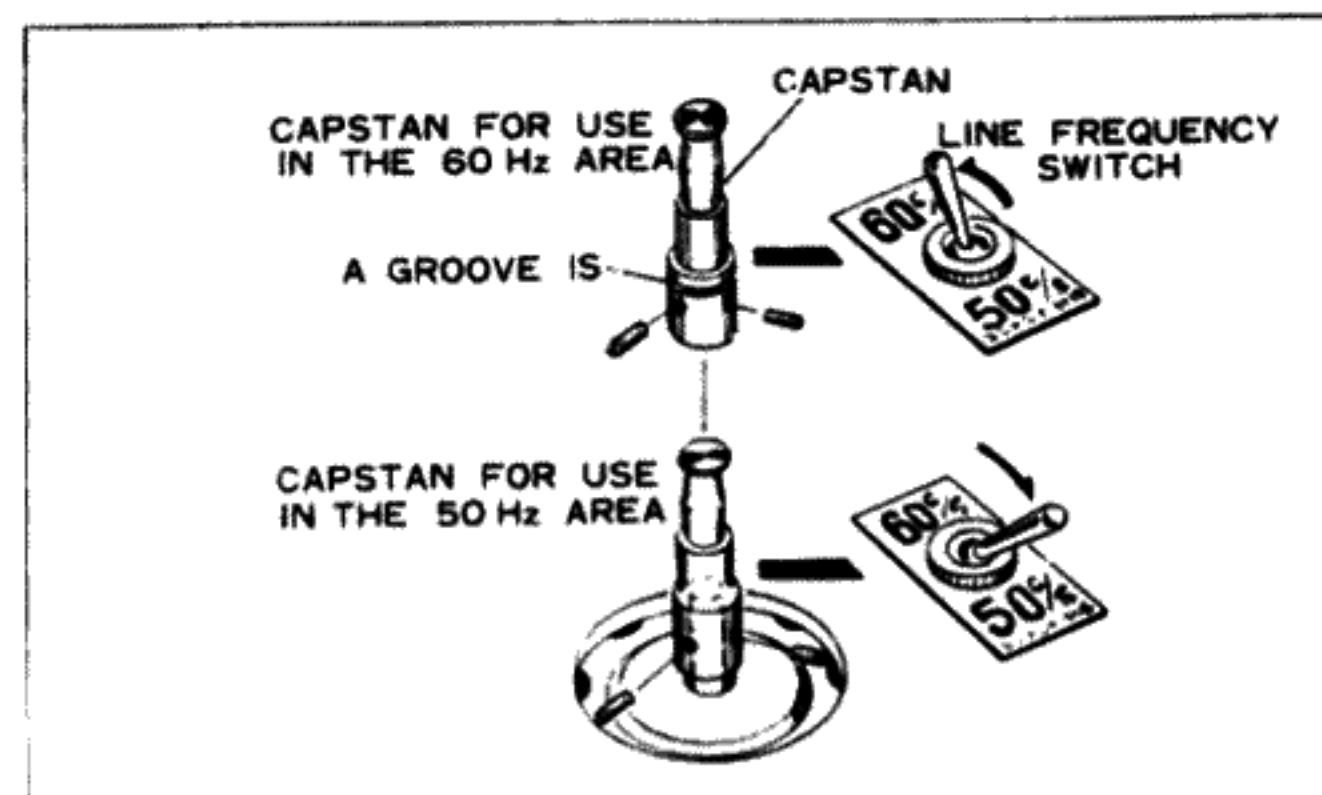

Fig. 3
Two kinds of capstans are furnished with the Model PL-41A; one for 50-Hz operation and the other for 60-Hz operation. The 50-Hz capstan has a larger diameter, and the 60-Hz capstan, a smaller diameter with a groove in the lower part. The Model PL-41A is usually set for operation of the line frequency in the area to which it is shipped; however, if you move to some other area where the line frequency is different, you must change the capstan for proper turntable speeds. Find out the line frequency in your area and set the proper capstan in your turntable as follows: (Fig. 3)
- Set the line frequency switch to the proper frequency position. (Fig. 3)